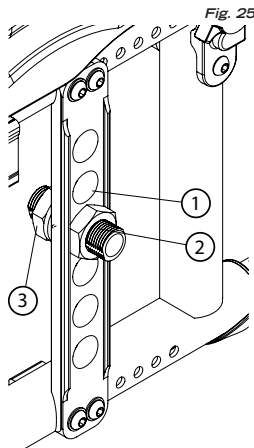

Fig. 25
- Remove the nut (3) holding the axle bushing.
- Move axle bushing (1) (Fig. 25) along mounting plate (2).
- Reinstall the bushing in the desired mounting hole and tighten the nut (3).